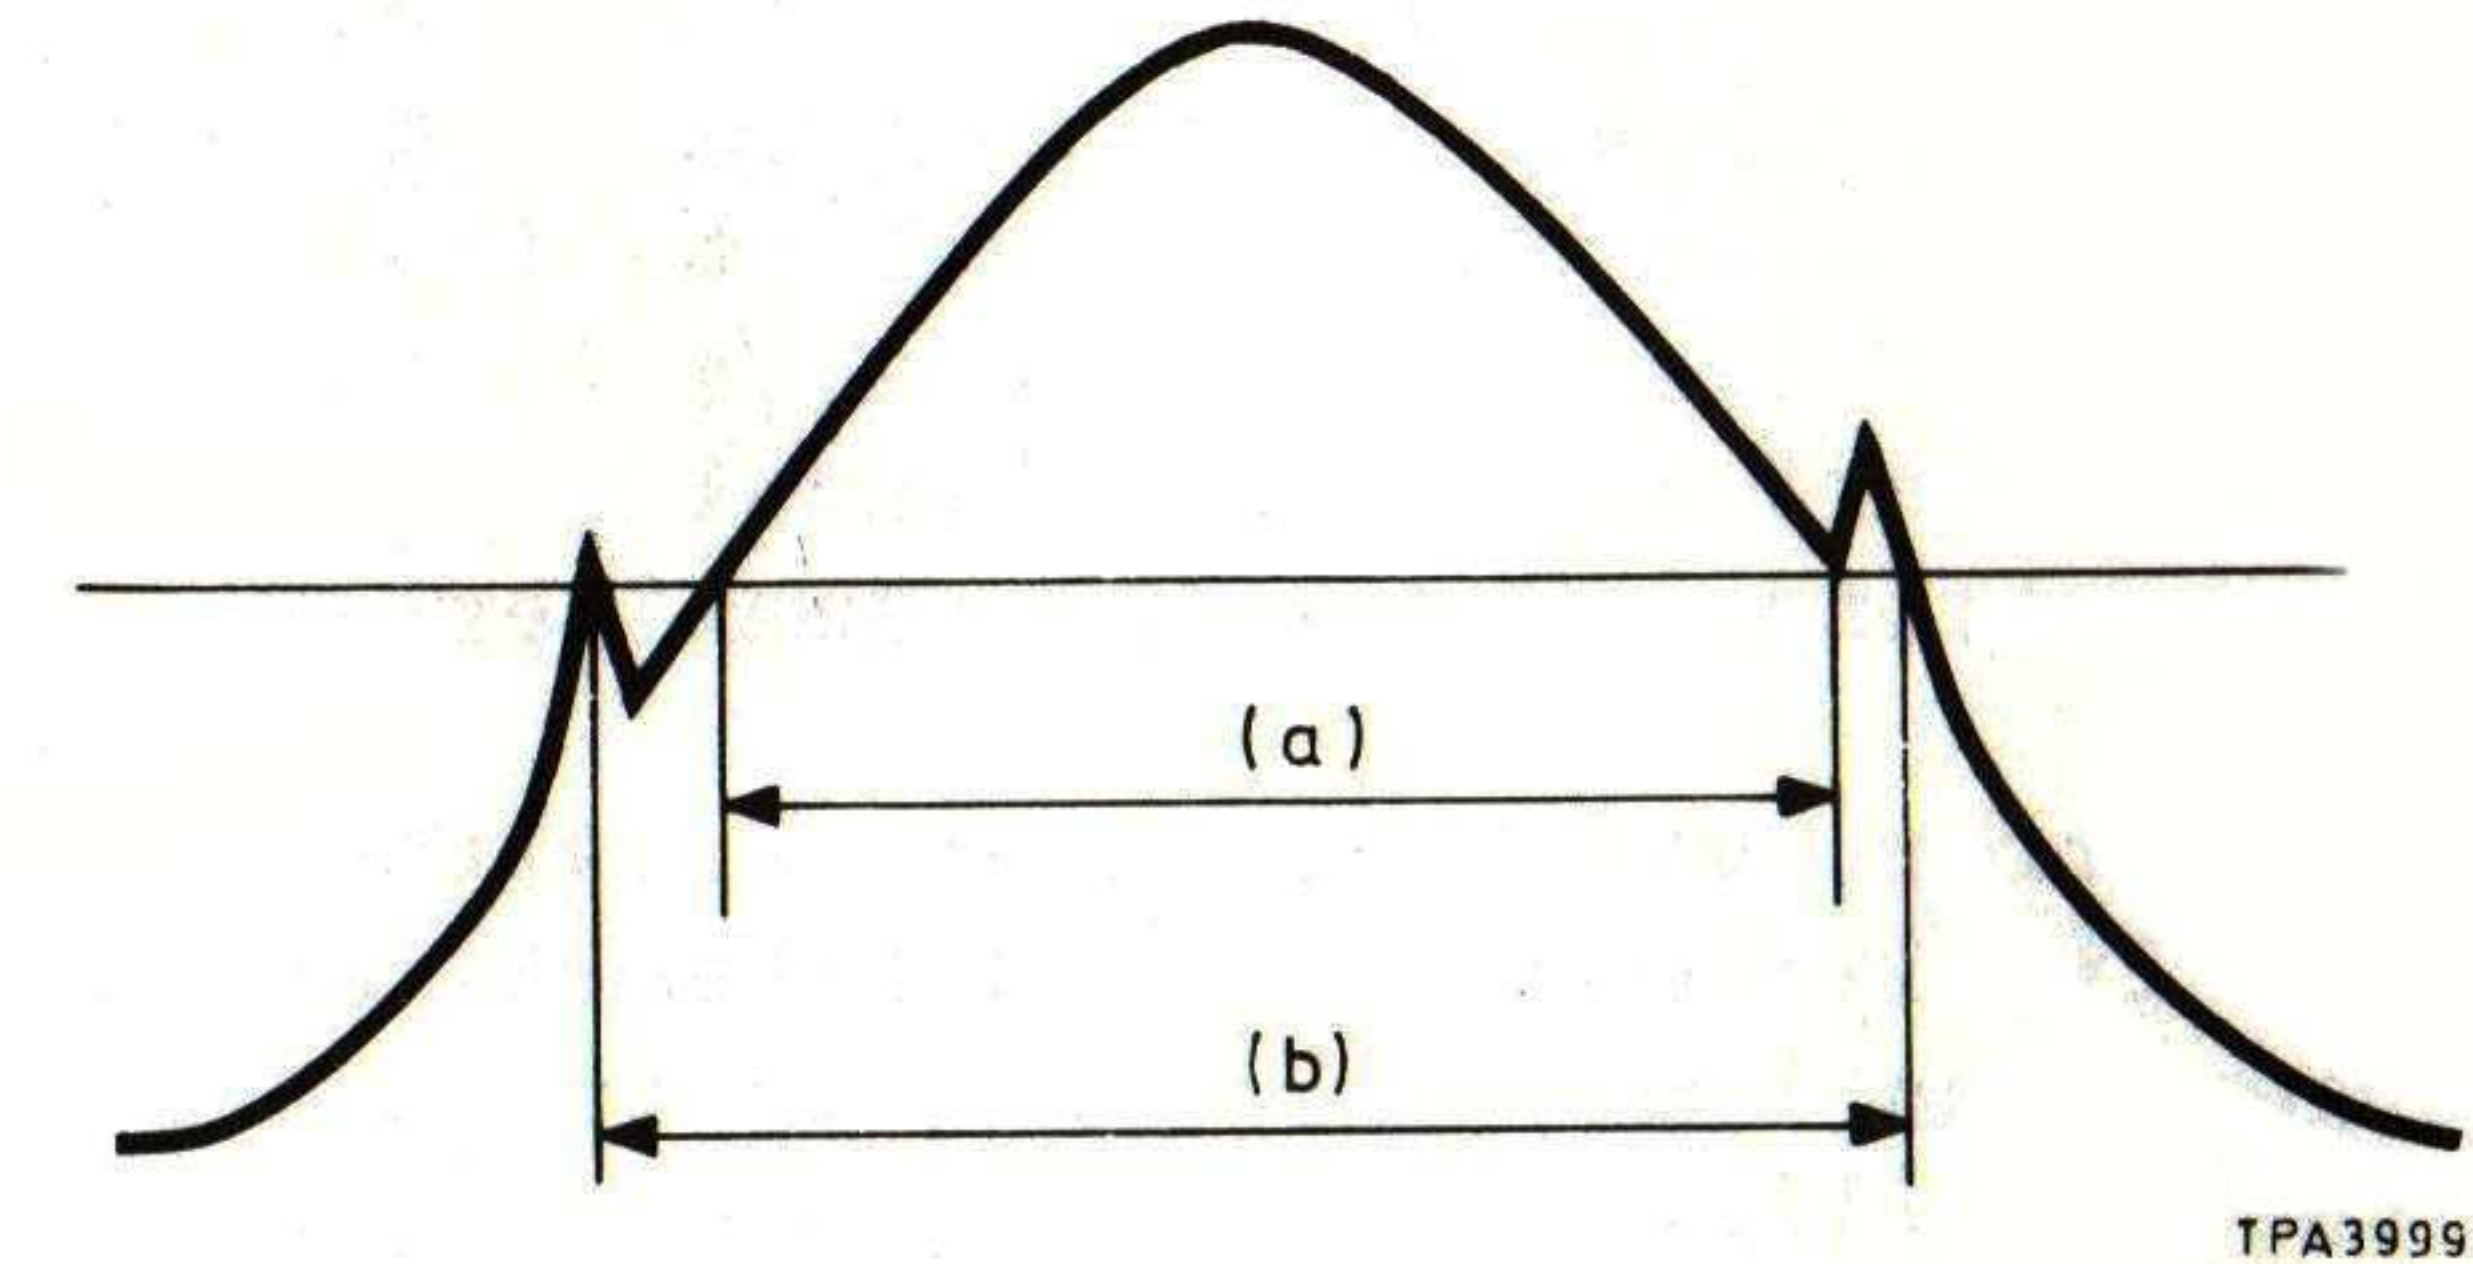

Fig. 6 Trigger error
29. Trigger errors are chiefly due to noise. Fig. 6 shows how the instant of triggering can be shifted by noise on the input signal. Note that the noise can advance or delay triggering and hence lengthen or shorten the measurement. Trigger error due to noise can be reduced by improving the signal to noise ratio, and this can often be achieved by increasing the amplitude of the input signal. If possible, arrange triggering to occur at a point of maximum slope on the input waveform, since noise signals result in smaller time errors where signal slope is greater. On pulse waveforms where the transition time approaches zero, careful setting of trigger level will allow accurate measurements to be made even in the presence of high noise levels.